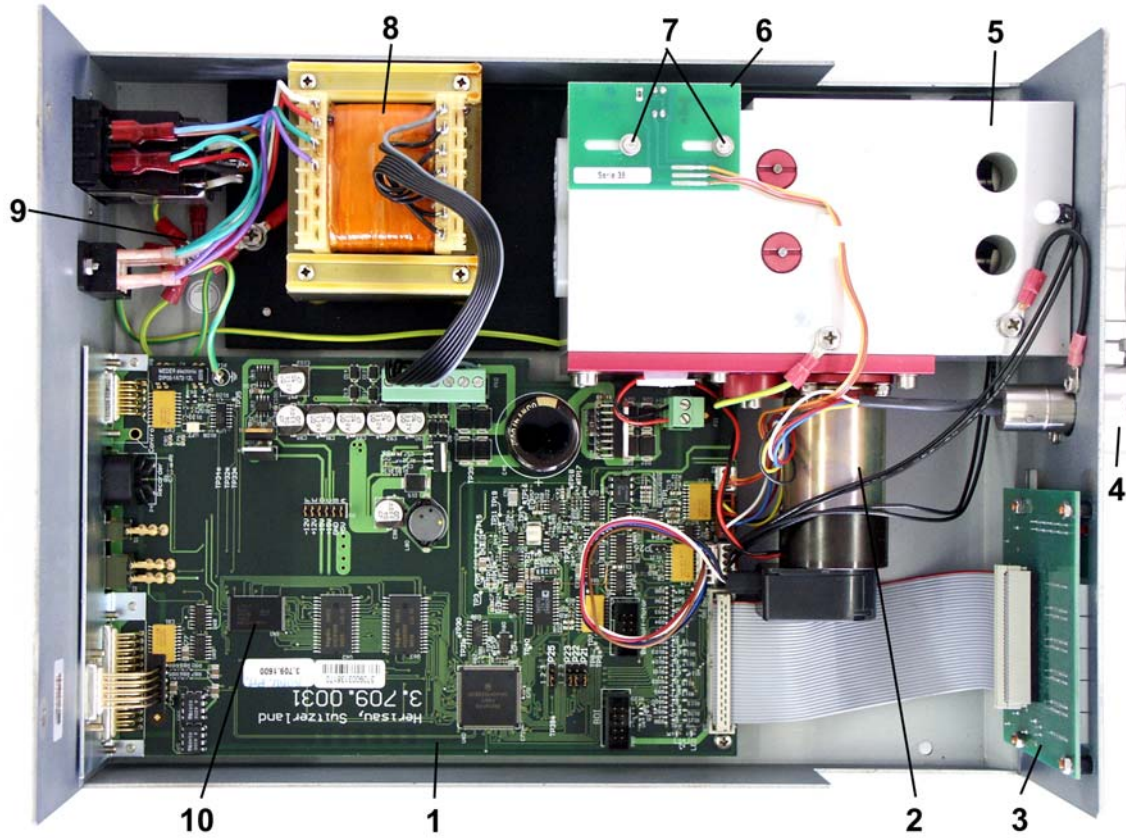

Fig. 4. Interior of the LC 100.
To remove main board execute the following steps (see Fig. 4):
- 2 Remove the screw of the earth connection on the black heat sink located at the top-left side of the board in Fig. 4.
- 4 Release Fig. 4/15- soldered connection LV 1, Fig. 4/16 (#?#)
To remove display/keyboard execute the following steps (see Fig. 4):